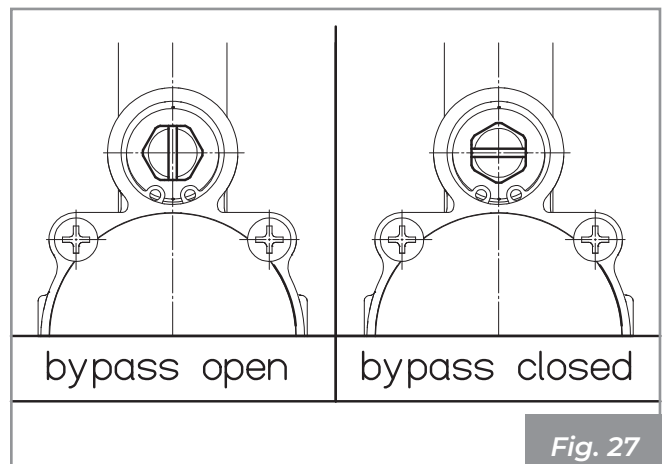

Fig. 27
- Close the bypass tap present in the anti condensation valve (Fig. 27).
- Close the filling tap (L).